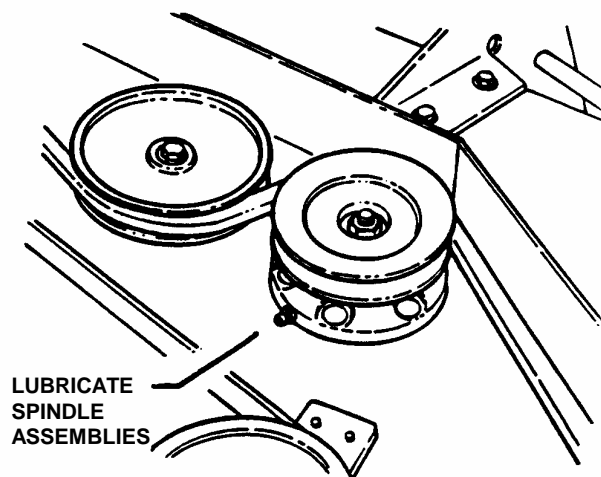

FIGURE 4.4
- Lubricate with Kendall NLGI No. 2 lithium grease or equivalent, from a grease gun until grease purges from vent located on spindle housing underneath deck.. See Figure 4.4.